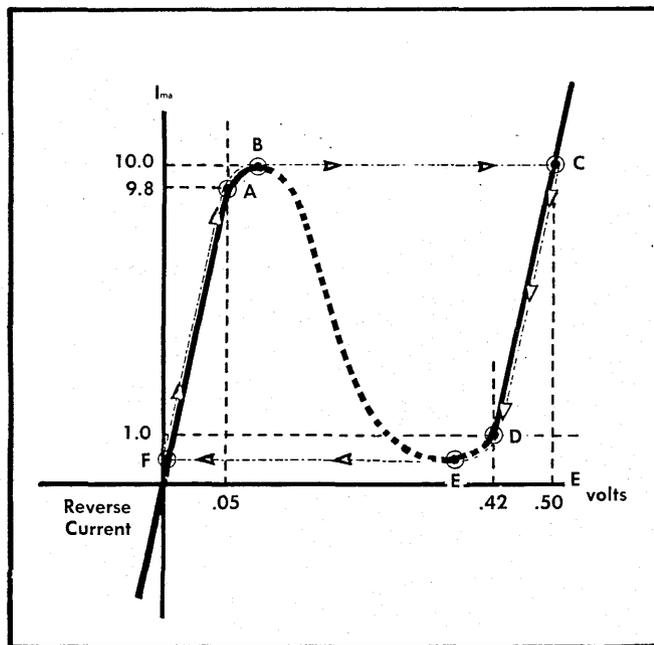

Fig. 3-4. Tunnel diode characteristics curve.
Operation of the tunnel diode (TD) D47 depends on its dynamic characteristics which are illustrated in Fig. 3-4.
If the plate current of V34 is increased by either the application of a signal to the trigger difference amplifier or by rotation of the TRIGGERING LEVEL control, the tunnel diode current can be increased to point B on Fig. 3-4. It will then switch at a very rapid rate to point C. The high impedance to high frequencies of L47 permits the tunnel diode to switch to point C rather than to some lower current portion of the curve between points C and D. As current through L47 changes, the current of the tunnel diode slowly drops to point D.